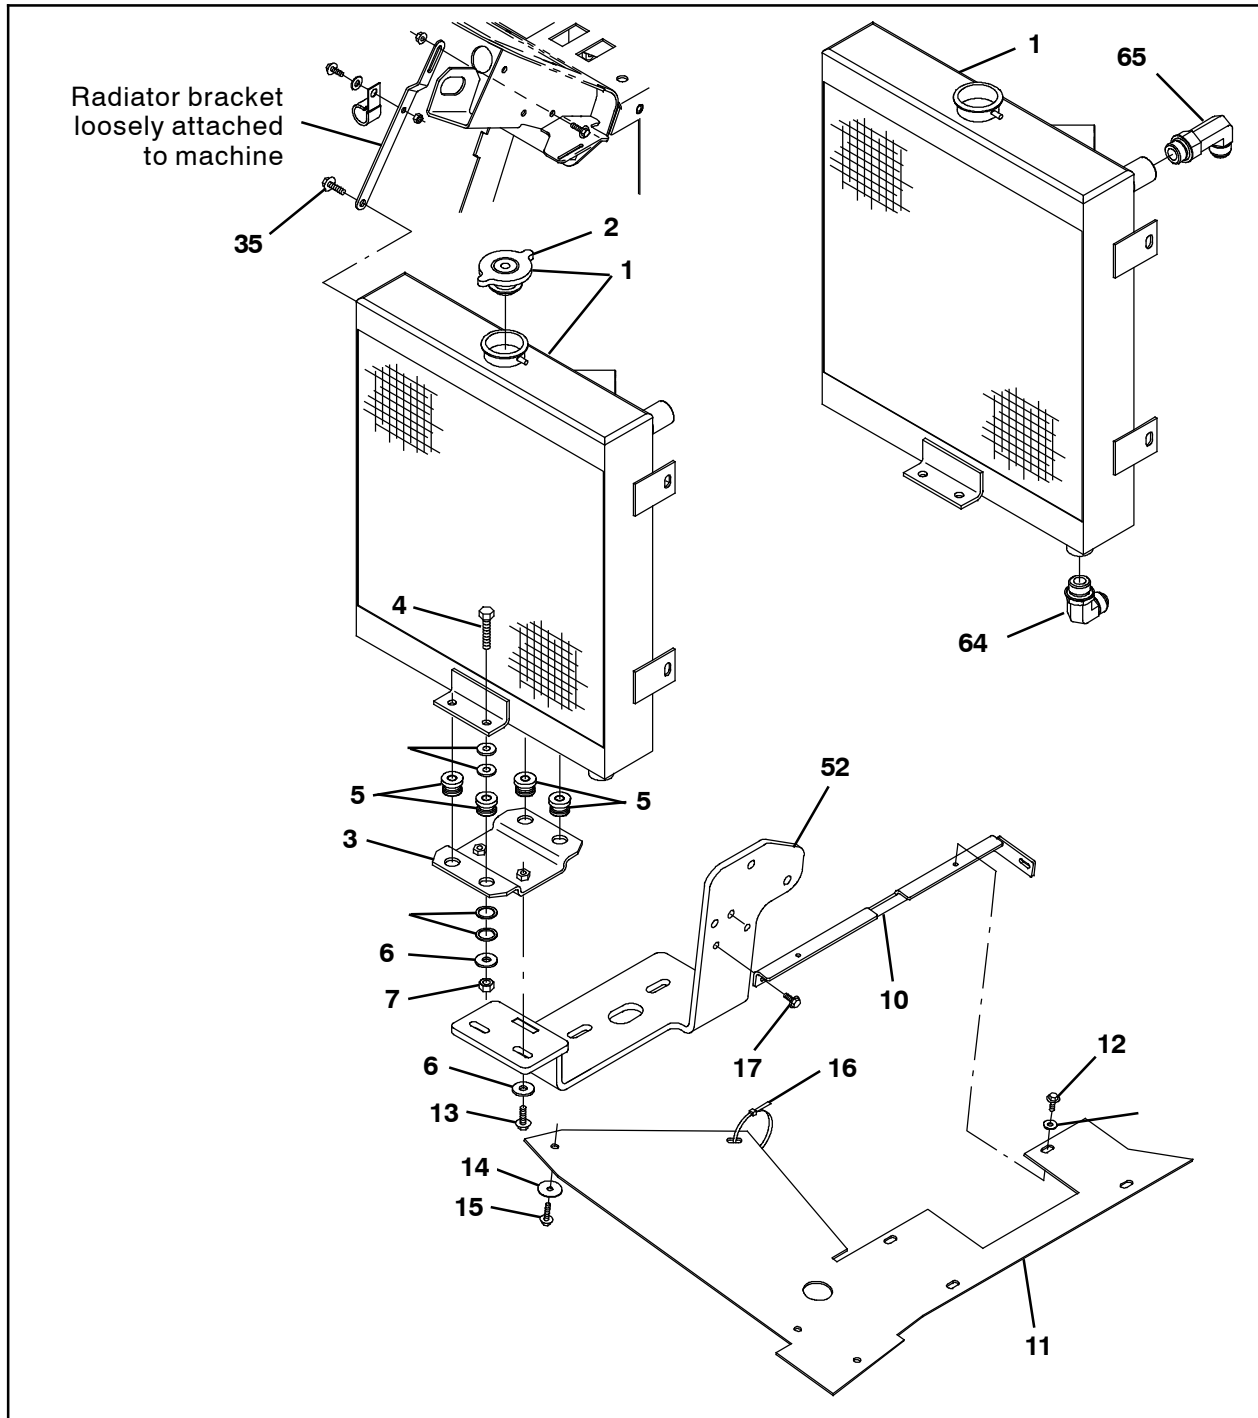

FIG. 11
- 33. Install hydraulic fitting (65) and hydraulic fitting (66) onto the radiator (1). (Fig. 11)
- 34. Use four SEMS M8 hex screws (13), four flat washers (6), eight flat washers, four vibration isolators (5), and eight flat washers to install the radiator (1) onto the radiator mounting bracket (3). (Fig. 11)
- 35. Use two SEMS M8 hex screws (13) and two flat washers (6) to install the radiator assembly onto the machine. (Fig. 11)
- 36. Install the skirt bracket (10) and fan skirt (11) onto the machine. (Fig. 11)
- 37. Use a SEMS M8 hex screw (35) to install the loose radiator bracket onto the radiator assembly. Secure the radiator bracket to the machine. (Fig. 11)